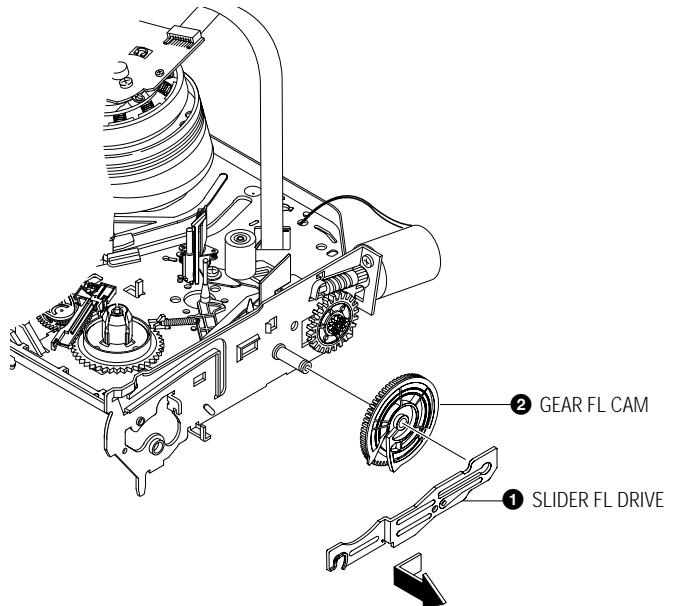

Fig. 2-14 Slider FL Drive Removal
- 1) Pull the Slider FL Drive ① to the front direction.
- 2) Remove the Slider FL Drive ① in the direction of arrow. (Refer to Fig. 2-14)
- 3) Remove the Gear FL cam ②.
**Note:** When reinstalling be sure to reassemble Slider FL drive ① after you insert the Boss of Lever FL ARM-R in Groove of Slider FL drive ①.
**Assembly:** Align the Gear FL Cam ① with the Gear worm wheel Post as shown drawing.